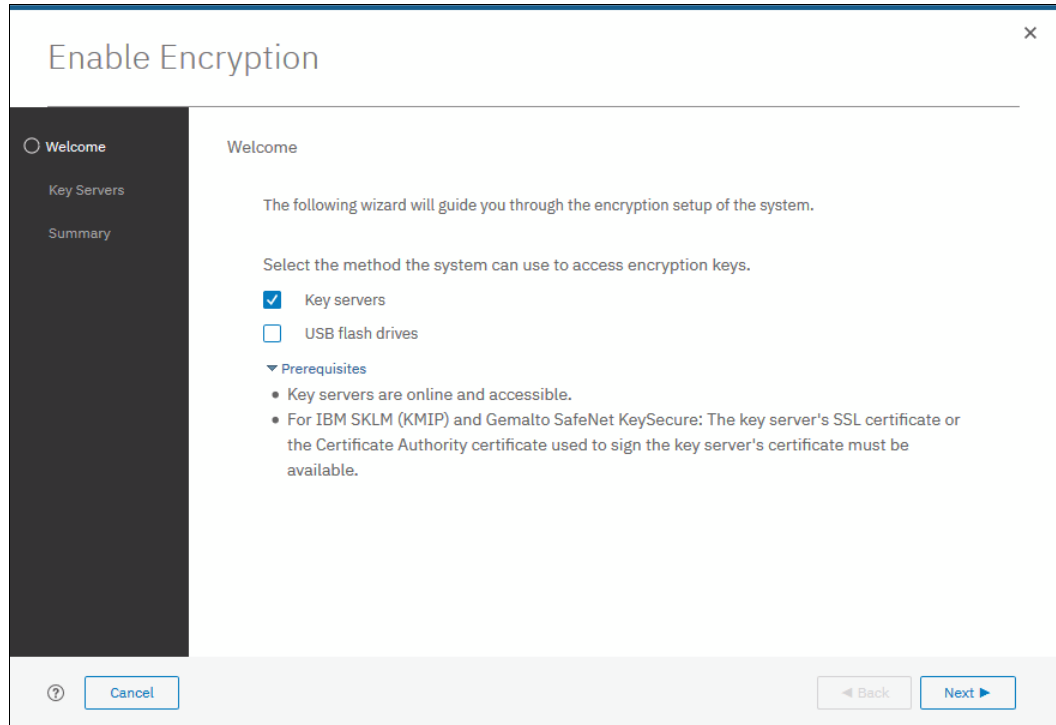

Figure 13-41 Selecting Key servers as the only provider in the Enable Encryption wizard
2. In the Enable Encryption wizard Welcome tab, select **Key servers** and click **Next**, as shown in Figure 13-41.